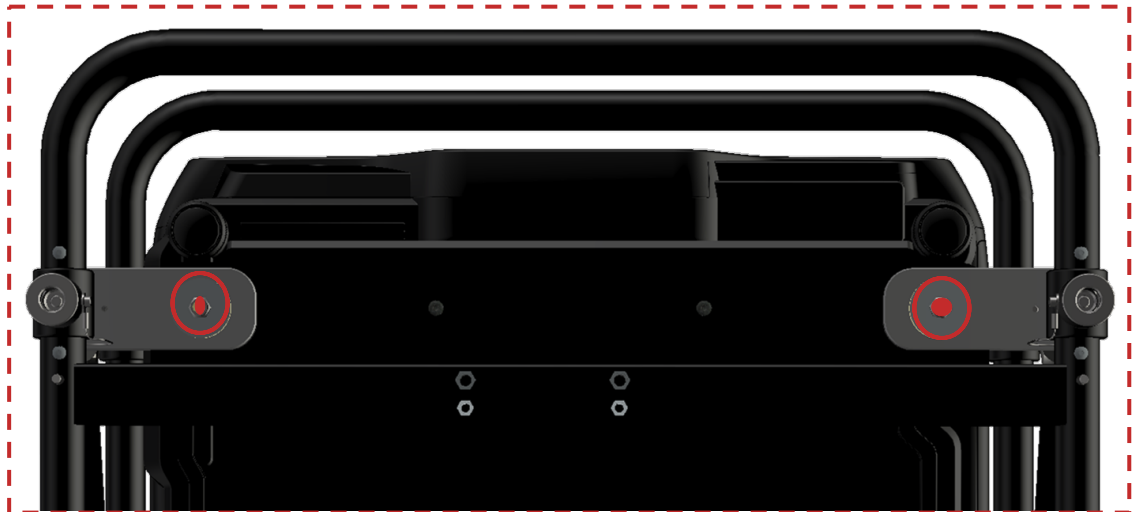
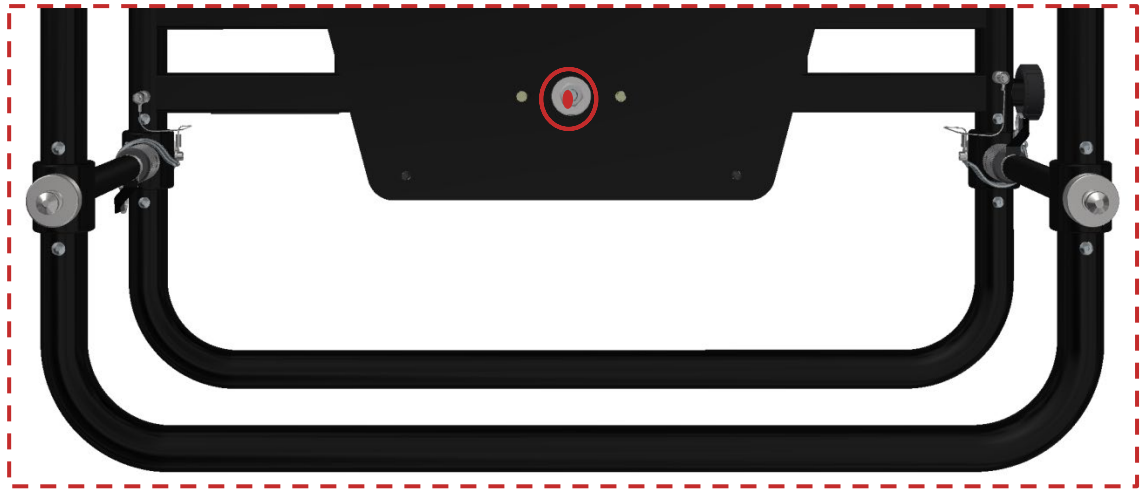

Figure 27 Nuts on front bottom side which are sealed with red colour wax
Figure 28 Nut on centre top side which is sealed with red colour wax
- On the three screws + nuts presented on the above two pictures (Figure 27 and Figure 28) red color sealing wax was applied to be sure that the nuts will always be on the same position and no one will try to tighten or loose them.
Except for the three nuts described on the previous section (see Figure 27 and Figure 28), please control, with corresponding tool, that all the other screws are properly tightened.